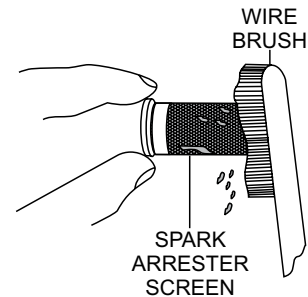

Figure 22. Cleaning The Spark Arrester
4. Carefully remove carbon deposits from the spark arrester screen (Figure 22) with a wire brush.